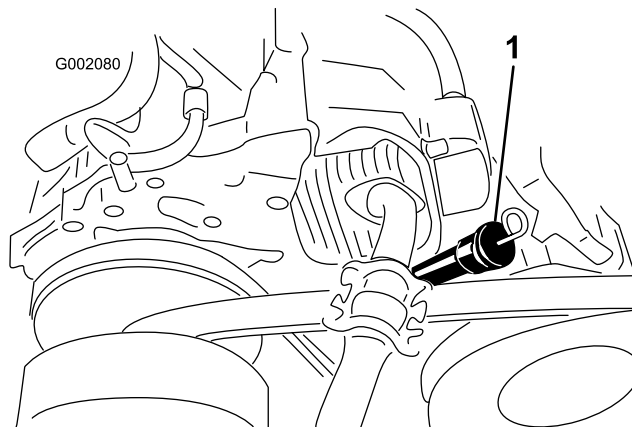

Figure 39
8. Clean around the oil dipstick and fill spout, and remove the dipstick (Figure 39).
9. Pour the specified oil into the into the filler spout until the oil level is up to the Full mark on the dipstick (Figure 39).
10. Insert the dip stick fully into the fill spout, remove the dipstick, and check the oil level (Figure 39).
11. Install the dipstick into the fill spout until the dipstick is firmly in place (Figure 39).